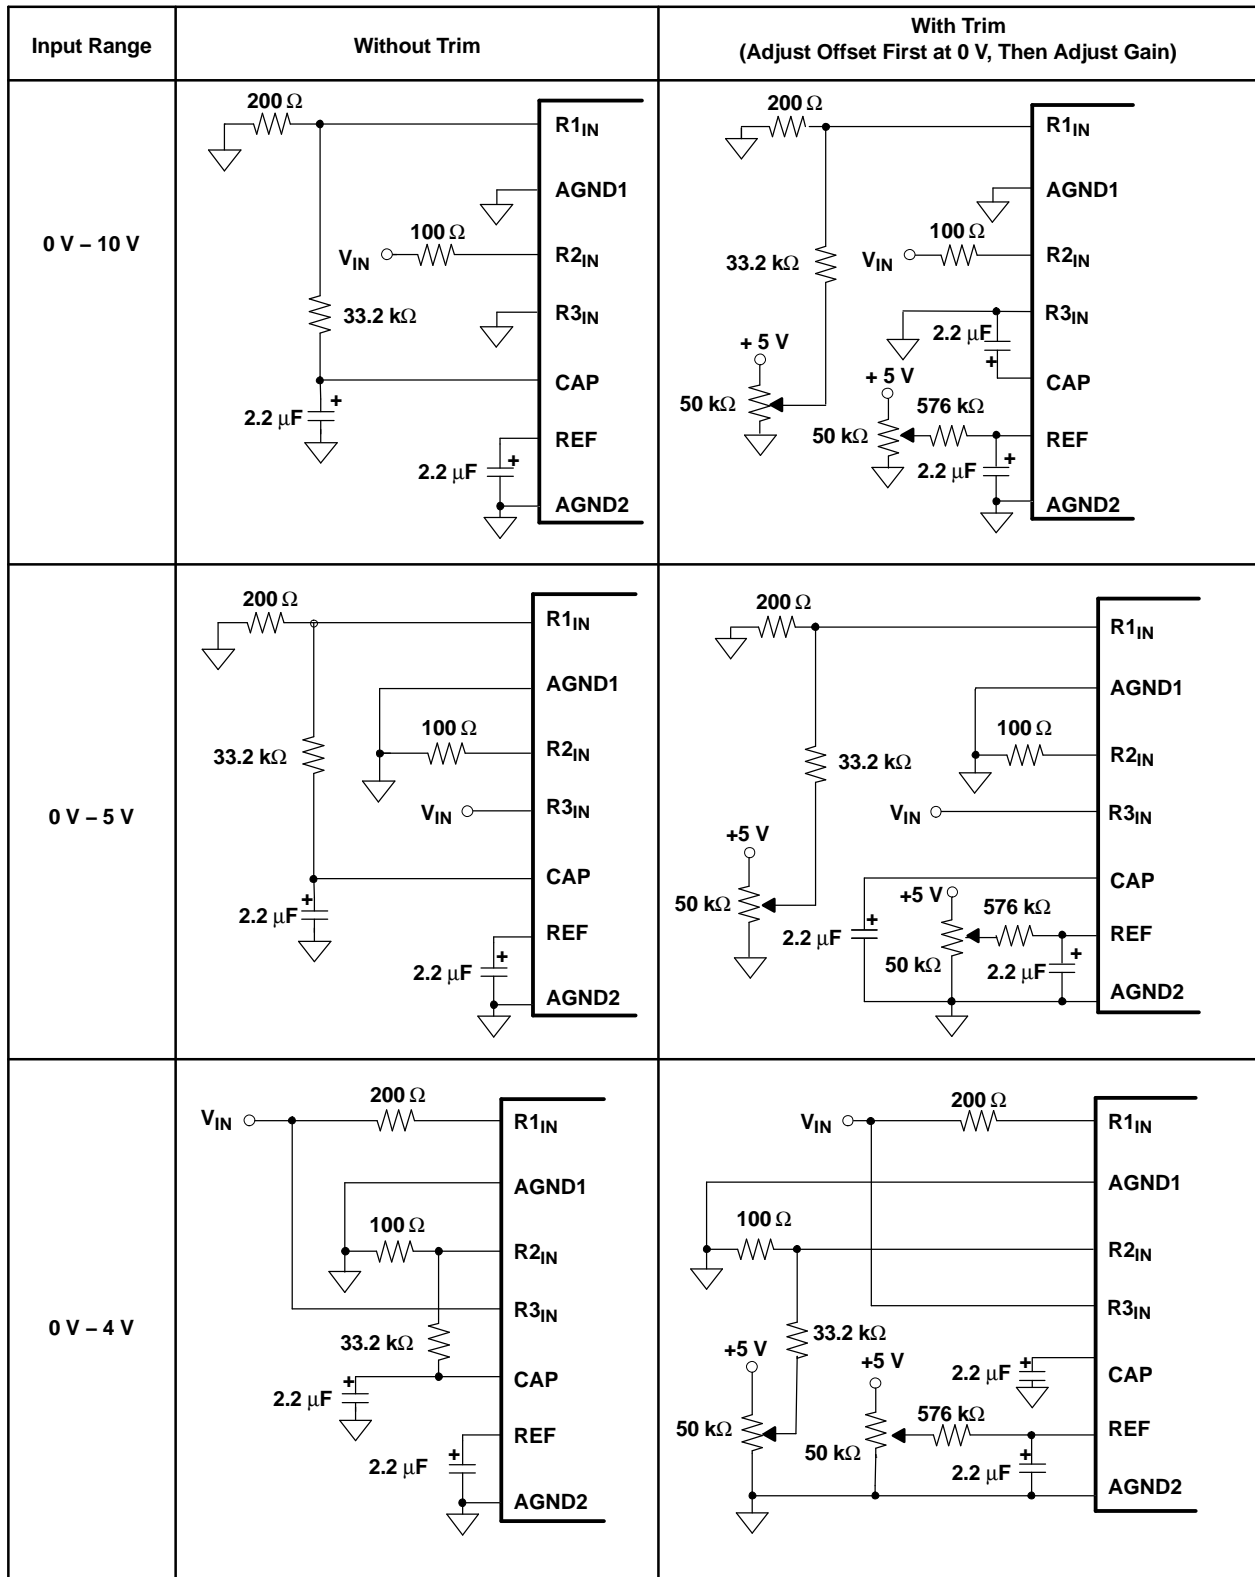
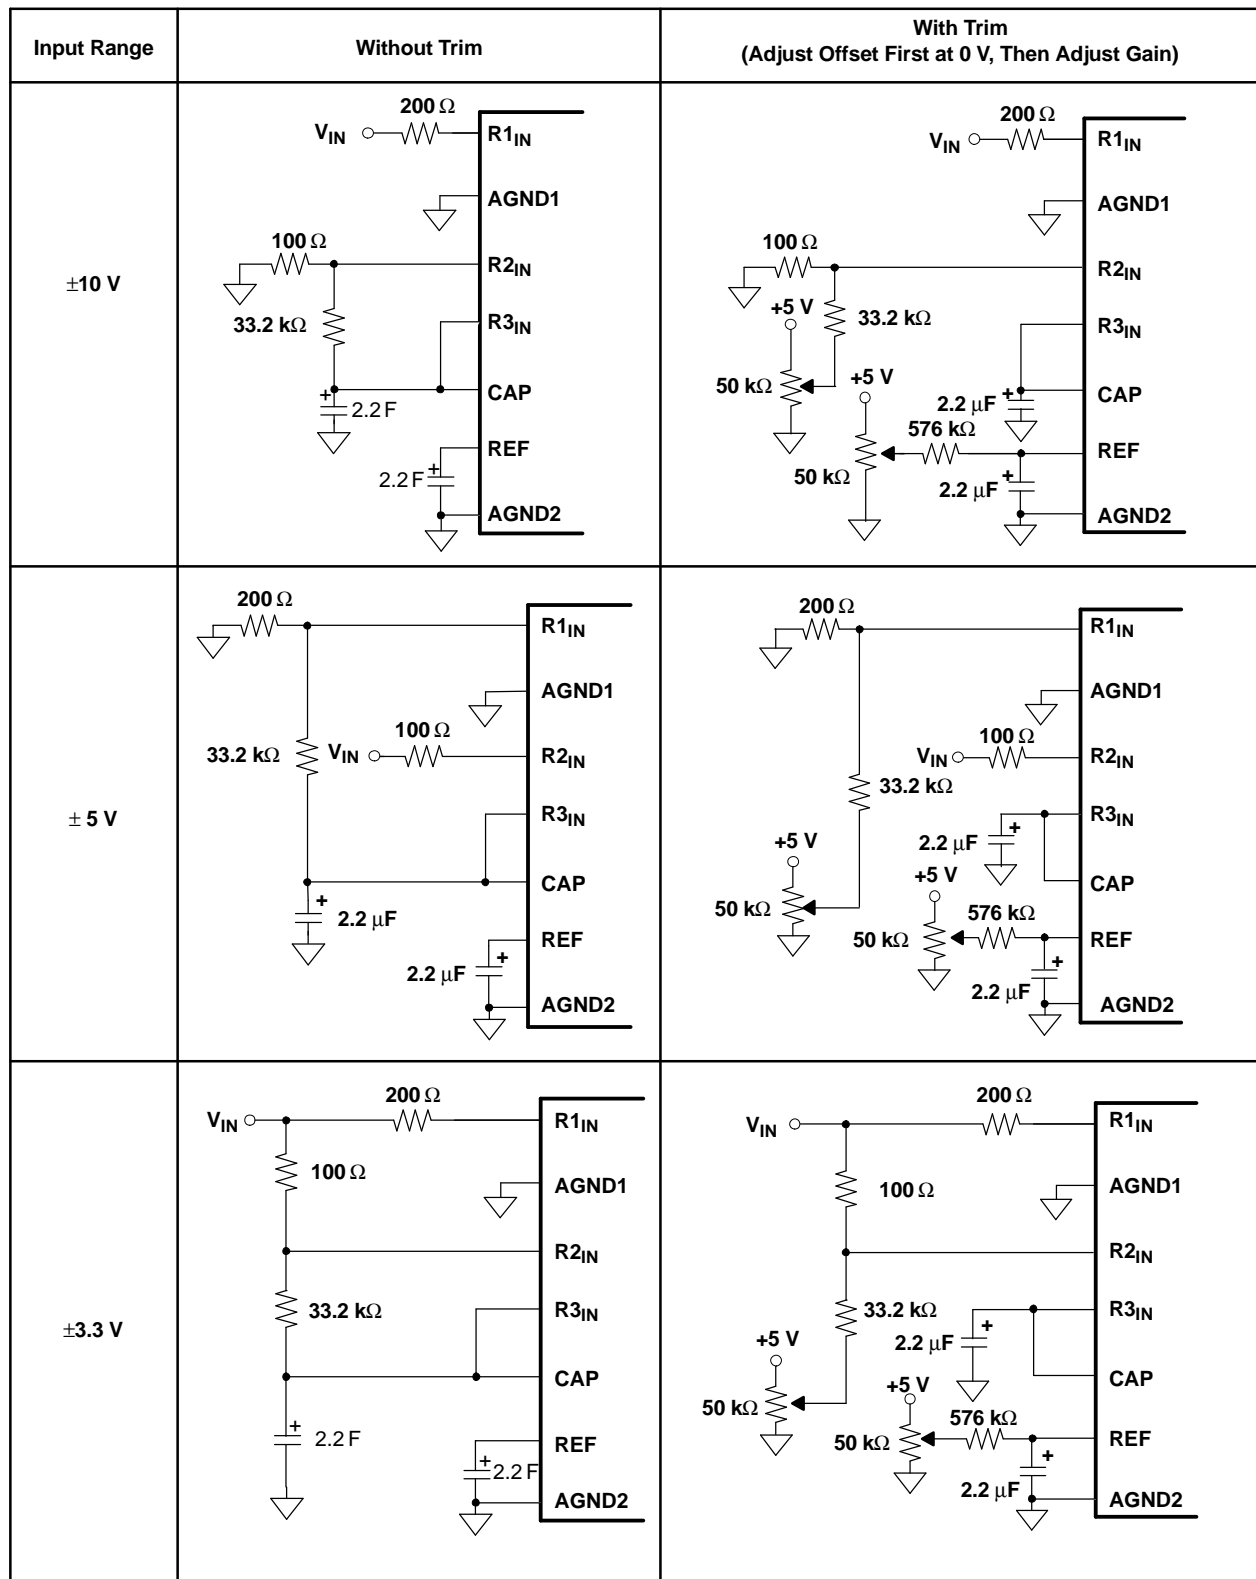

Figure 29. Offset/Gain Circuits for Unipolar Input Ranges
Figure 30. Offset/Gain Circuits for Bipolar Input Ranges
The ADS8509 has six analog input ranges as shown in Table 3. The offset and gain specifications are factory calibrated with 0.1%,  $\frac{1}{4}$ -W, external resistors as shown in Figure 29 and Figure 30. The external resistors can be omitted if larger gain and offset errors are acceptable or if using software calibration. The hardware trim circuitry shown in Figure 29 and Figure 30 can reduce the errors to zero.
**Table 3. Input Range Connections (see Figure 29 and Figure 30 for complete information)**